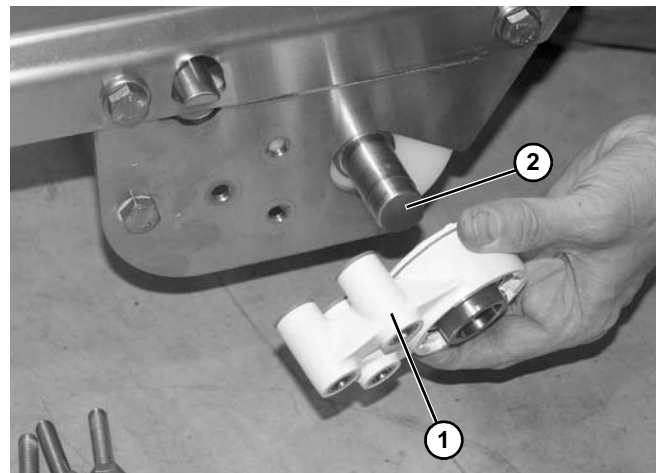

Figure 74
14. Remove bearing housing (**Figure 74, item 1**) from frame and spindle shaft (**Figure 74, item 2**).